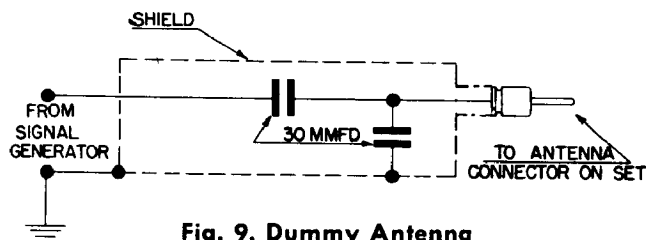

Fig. 9. Dummy Antenna
Fig. 9 shows the schematic of a recommended dummy antenna, closely resembling actual antenna capacity, to be used in series with signal generator leads when aligning the R.F. section of the receiver.
- 1—Connect signal generator leads through dummy, illustrated in Fig. 9, to antenna lead in socket on receiver. This is important.
- 3—Connect signal generator leads through dummy, illustrated in figure 9, to antenna receptacle on the receiver.